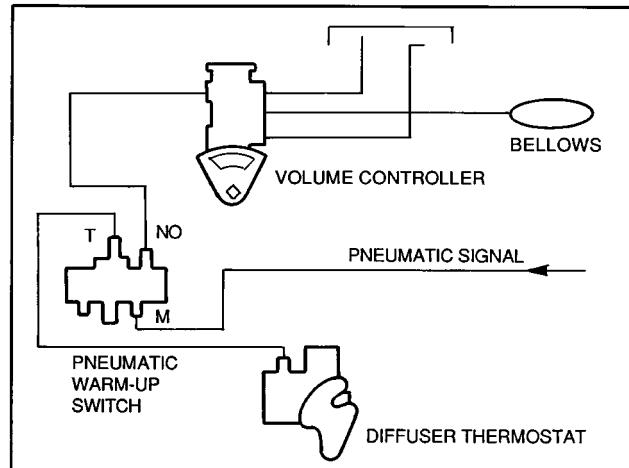

Fig. 3 — Piping Diagram, NO Configuration, Pneumatic Warm-Up
Pneumatic Warm-Up — As a pneumatic warm-up switch, the device is piped as shown in Fig. 3 and 4. Note that the same switch is used in both NO and NC configurations by connecting tubing to the specific ports shown.
2. Connect the EPDM tube of this assembly to the thermostat port of the volume controller and connect the FR tube to the required port on the warm-up switch. (See Fig. 3 and 4.)
4. Connect the EPDM tube to the diffuser thermostat port and connect the FR tube to the warm-up switch. (See Fig. 3 and 4.)